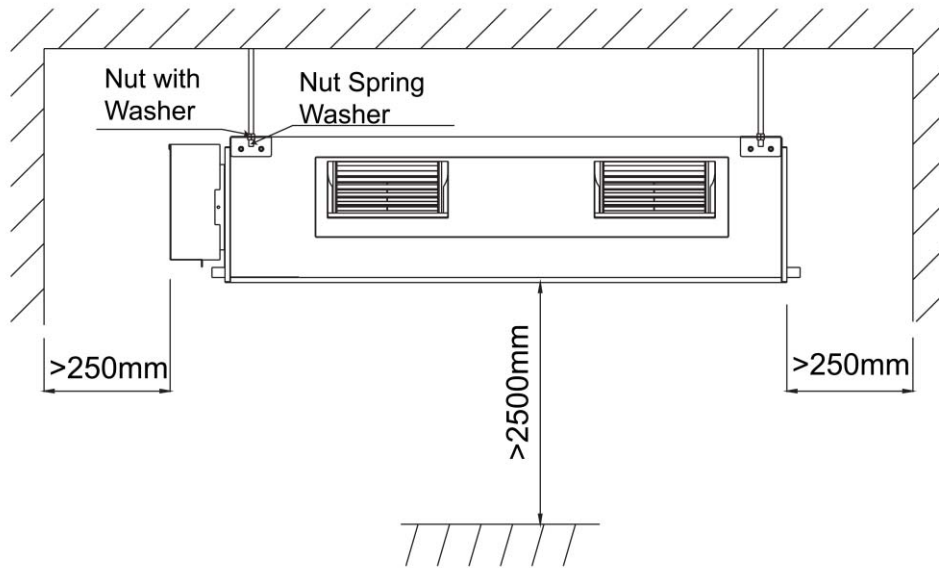

Figure 3-1-8
- (1) Install the drain hose with downward gradient (1/50 to 1/100) and no risers or traps are used for the hose. (Figure 3-1-8)
- (2) Be sure there is no crack or leak on the drain hose to avoid the formation of air pocket. (Figure 3-1-8)